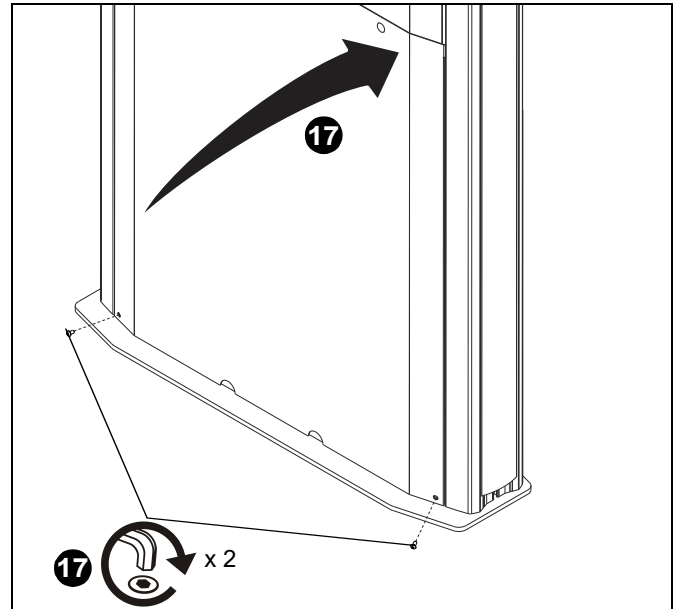

Figure 10
17. Reinstall front cover by using two screws removed in Step 13. (See Figure 10)